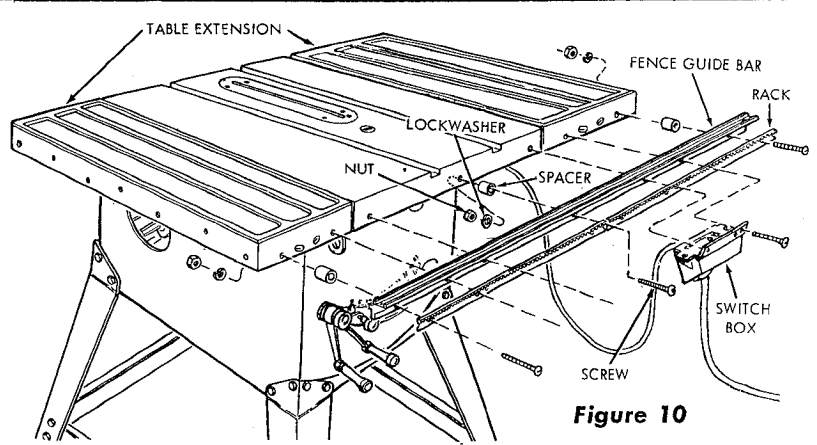

Figure 10
c. Installation of fence guide bar, rack and switch box support. (See figure 10.)
- (1) Insert a 1/4-20 x 2 inch, slotted round-head screw through the center hole of guide bar and through a spacer. The guide bar should be positioned so the scale faces upward, and is readable from the front of the saw. (See figure 10.)
- (2) Attach this assembly to the center hole in the table and secure the assembly with a 1/4 inch lockwasher and 1/4-20 inch hex nut. Do not tighten the nut until all attaching screws are in position.
- (3) Place each rack in position (as shown in figure 11) and insert a 1/4-20 x 2 inch slotted round head screw through the outside hole, through the guide bar, spacer and table extension. Secure with a 1/4 inch lockwasher and 1/4-20 inch hex nut. (See figure 10.)
- (4) Place switch box in position (either to right hand or left hand side of saw table as desired). Attach with two 1/4-20 x 2 inch slotted round head screws through switch box mounting flange, rack, guide bar, spacer and table. Secure with two 1/4 inch lockwashers and 1/4-20 inch hex nuts. (See figures 10 and 11.)
- (5) Complete attachment of opposite rack with two more screws, aligned with table in the same sequence described above. Tighten all screws securely.
- (2) Slide the rip fence along the guide bar while watching the clearance between lower edge of fence and table top. If any portion of the fence (except sliding pad at rear) drags on table top, or if clearance between fence and table top varies appreciably as the fence is moved, the guide bar must be readjusted. This is accomplished by loosening the attaching screws (figure 10) and re-positioning the bar until a consistent clearance exists over entire top surface of the table.